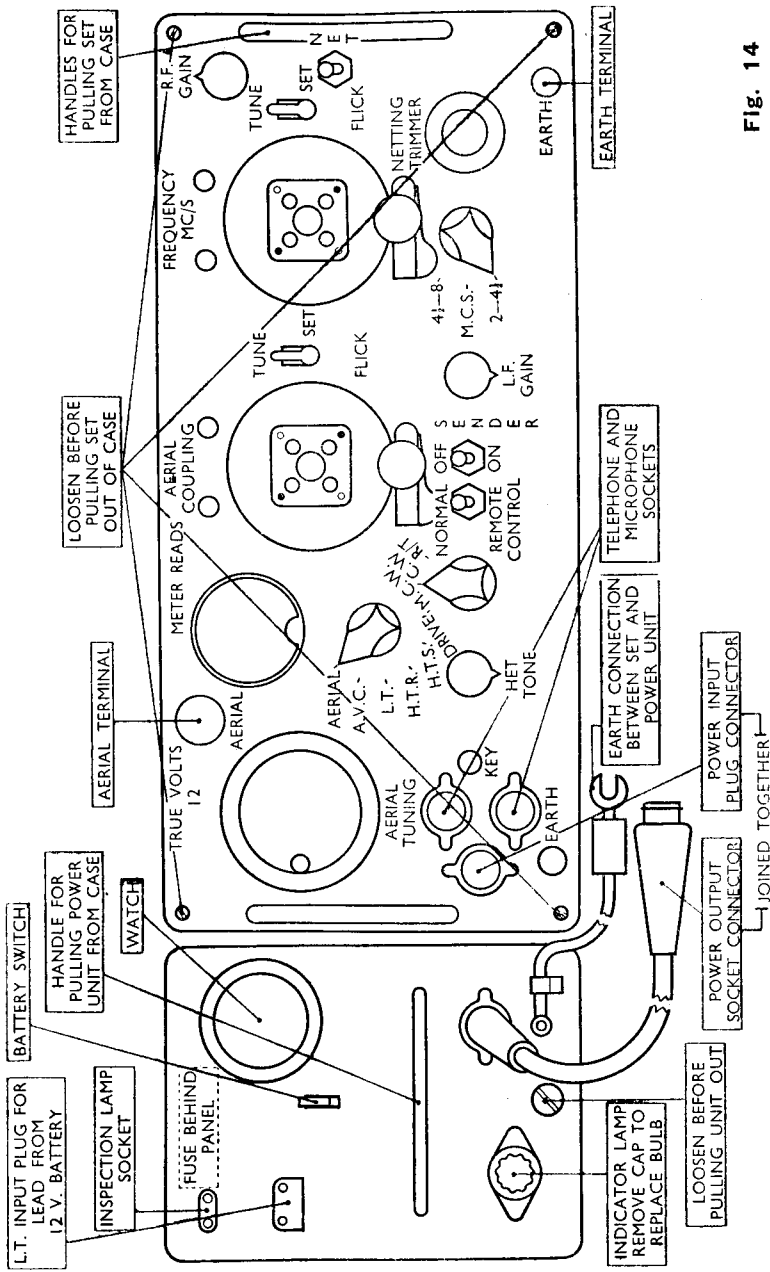

Fig. 14
| (1) Connect the power supply. (See Fig. 14.)     | } Do NOT disconnect unless removing set or power unit. |
- (5) Changing the indicator bulb. (*See Fig. 14.*)
- (8) Taking the set and power unit out of their cases. (*See Fig. 14.*) Never take the set out except to change the valves. Never take the power unit out except to rewire the fuse or change the vibrator.